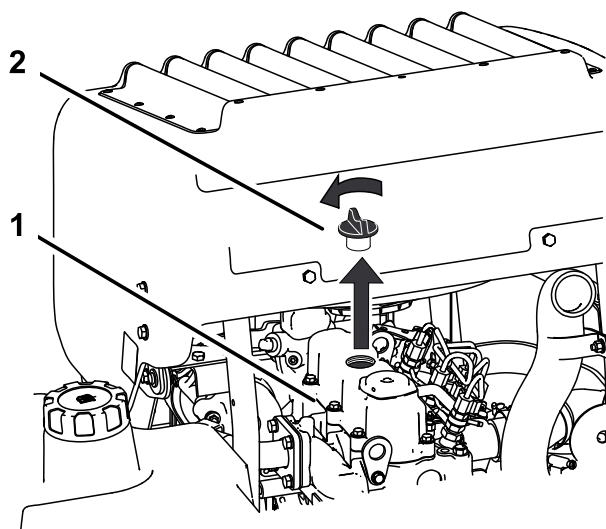

Figure 40
6. Remove the oil filler cap from the top of the engine (Figure 40). This will help the oil to drain.
2. Remove the oil filler cap and the dipstick (Figure 40).